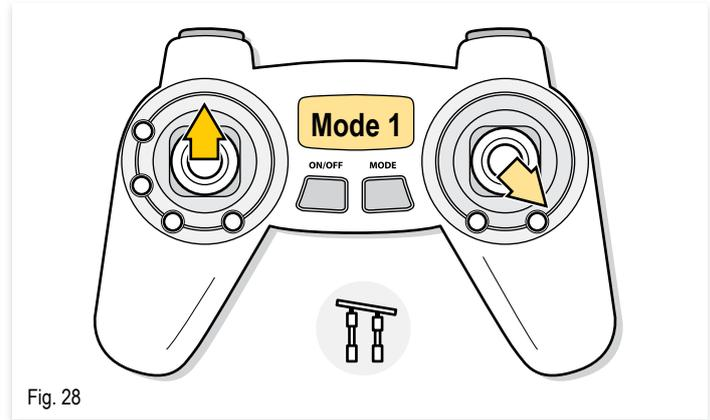

Fig. 28
3. Move the THROTTLE/AILERON lever diagonally into the right bottom position, and move the ELEVATOR/RUDDER lever fully up vertically. See [Fig. 28].